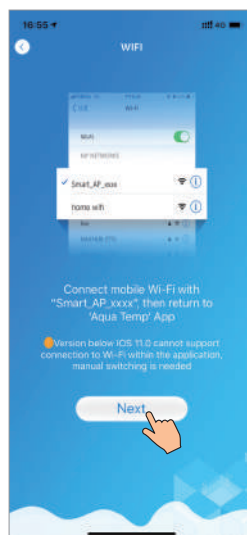
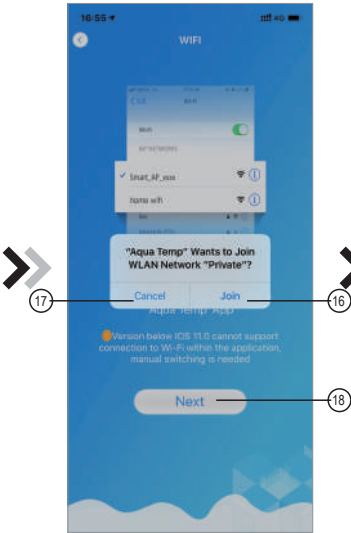
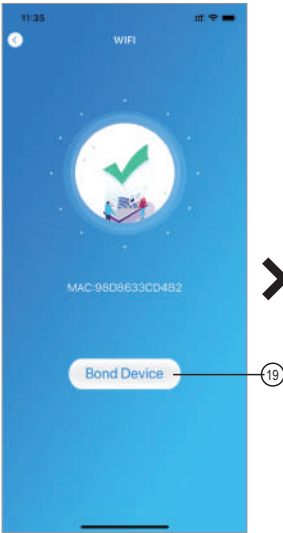

Fig.12 Connect specified WIFI
Fig.13 Configure Network interface
Fig.14 Bond Device interface
4. Slide the page back to configure network interface (Fig. 12), click (16) to join WLAN Network, click (17) to cancel, click (18) to turn next page(Fig. 13); click (19)to bond device (Fig. 14);